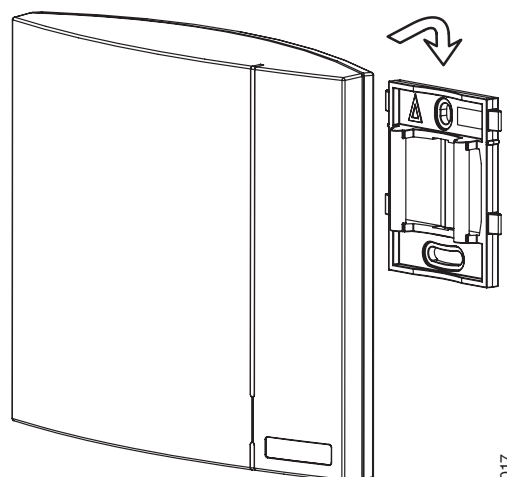

Figure 11. Mounting the base station
- 1 Hold the base station flat against the mounting bracket and move it downwards until it clicks, see Figure 11.